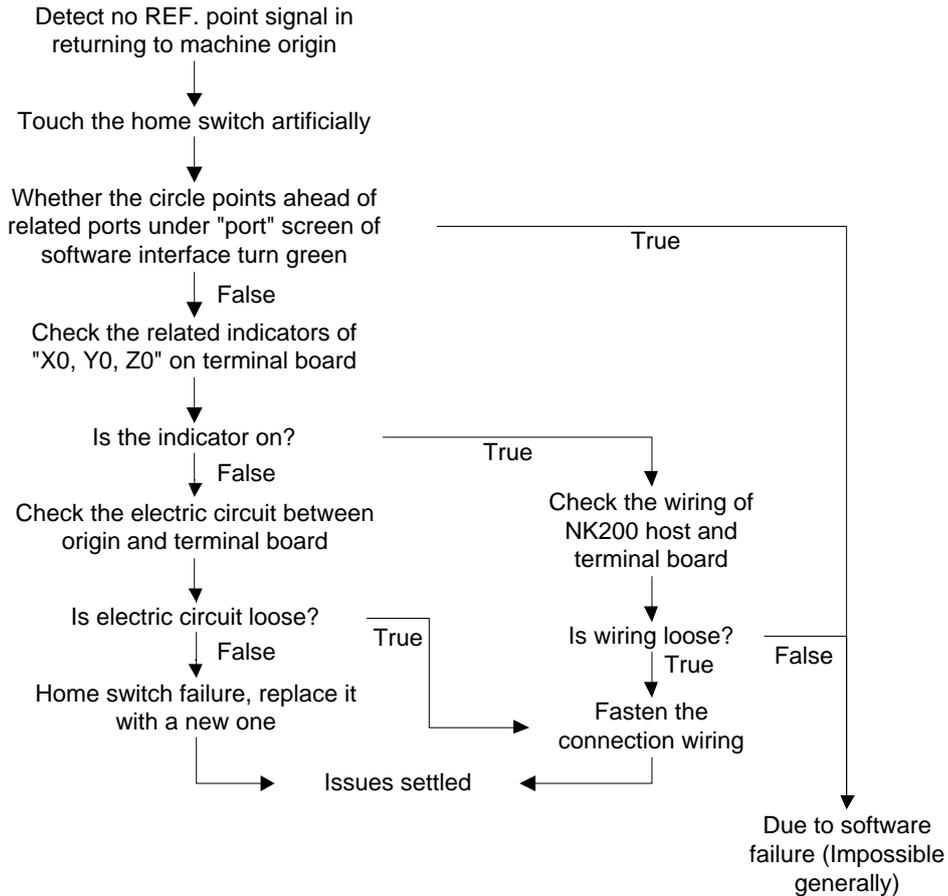

Fig. 3-14 Debugging Steps
- 1) Origin signal can not be detected in the process of returning to machine origin. It is generally caused by origin switch. The debugging & adjusting steps are shown in Fig. 3-14.